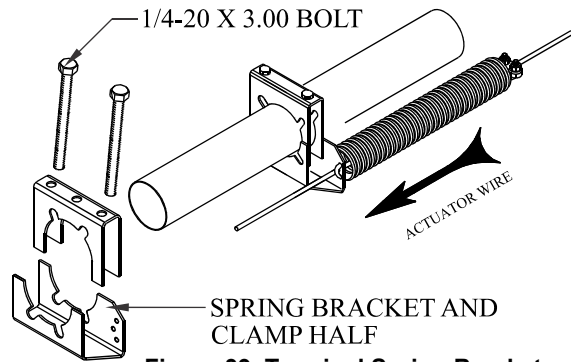
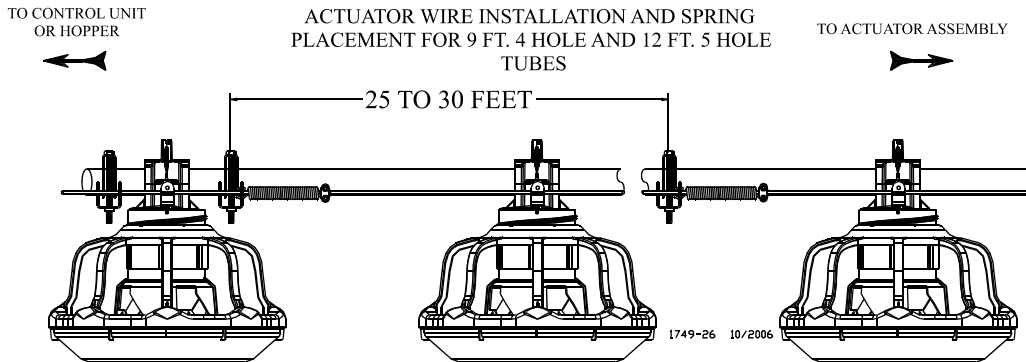

Figure 39. Terminal Spring Bracket
Figure 41. Wire layout for 9 ft. 4 hole and 12 ft. 5 hole
1. Install the terminal spring and bracket (using (2) 1/4-20 x 3 inch hex bolts) at the control unit, **see figure 39 and 42**. If necessary the last pan may need to be setup to push the vari-brood opening, **see figure 41**.
3. Continue installing Brackets 30' apart using (2) 1/4-20 x 3 inch hex bolts.